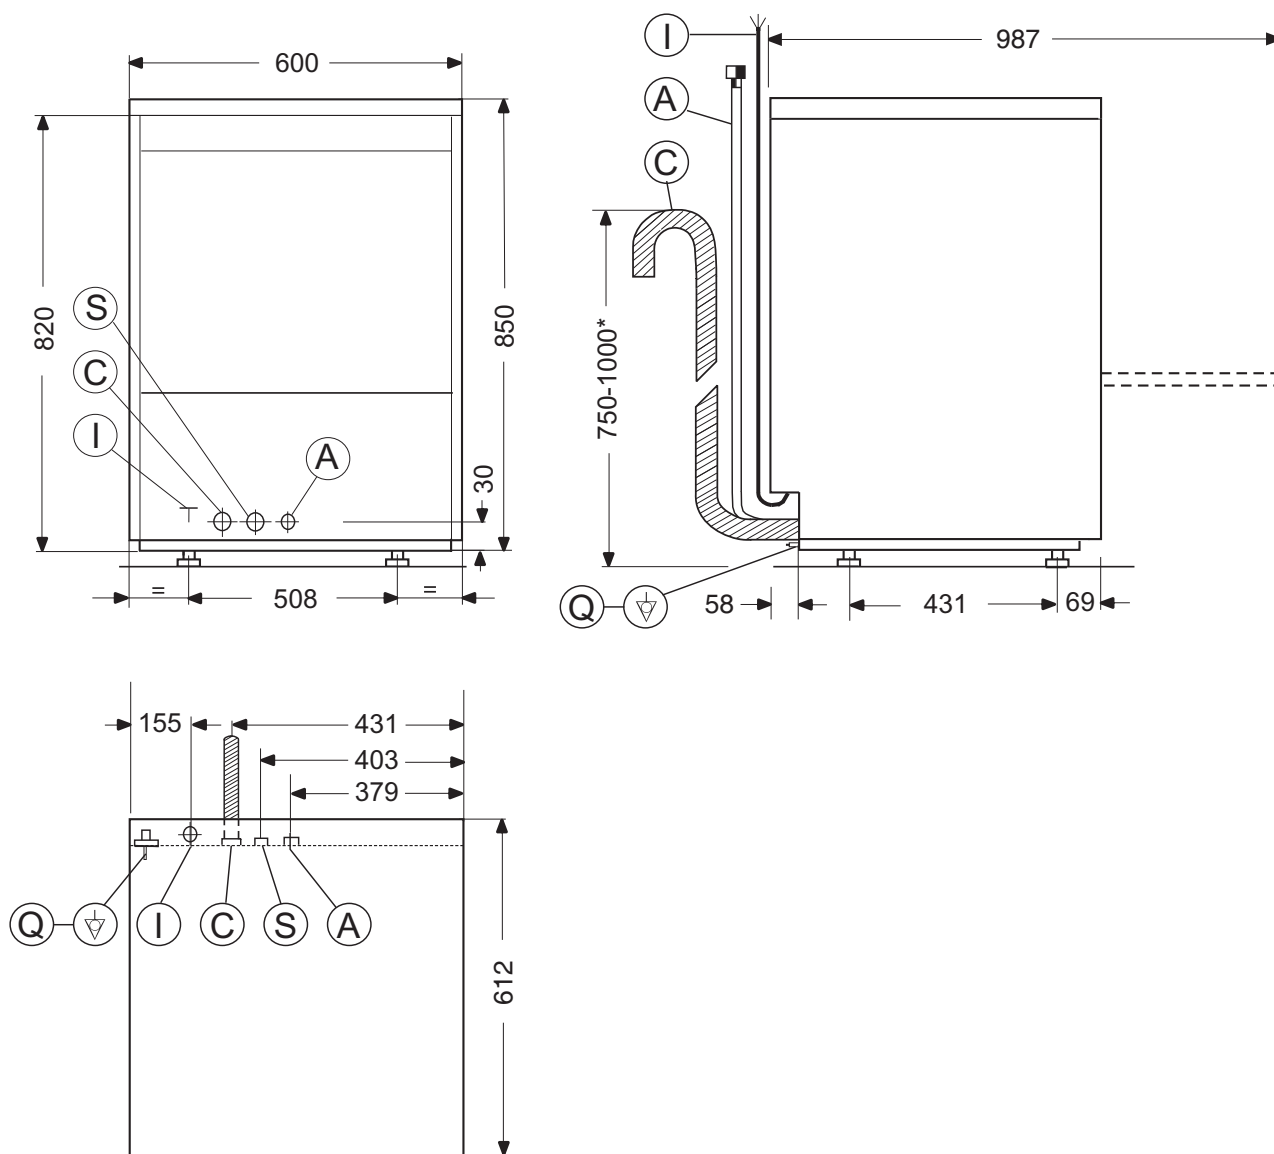
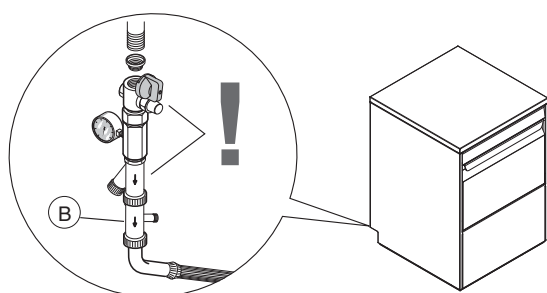

Figure 4 Installation diagram
Figure 6
Legend Figure 4
- Connect the appliance water supply pipe "A" (Figure 4) to the mains, fitting a cut-off cock, the filter provided and a pressure gauge between the appliance and the mains (Figure 6).
- In models with incorporated water softener, connect the double non-return valve "B" (Figure 6) supplied and the machine supply pipe.
connect the waste outlet pipe "C" (Figure 4) to the main drain pipe, fitting a trap, or place the outlet pipe over an "S" trap set into the floor.
- Connect the earth wire of the power supply cable to an efficient earth clamp. The appliance must also be included in a unipotential system, the connection being made through the screw "Q" (Figure 4) marked with the symbol "⚡". The unipotential wire must have a cross section of 10 mm².